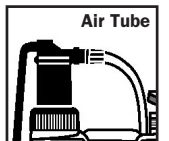

Fig. 6
- Spray, pressing on the handle (Fig.6).